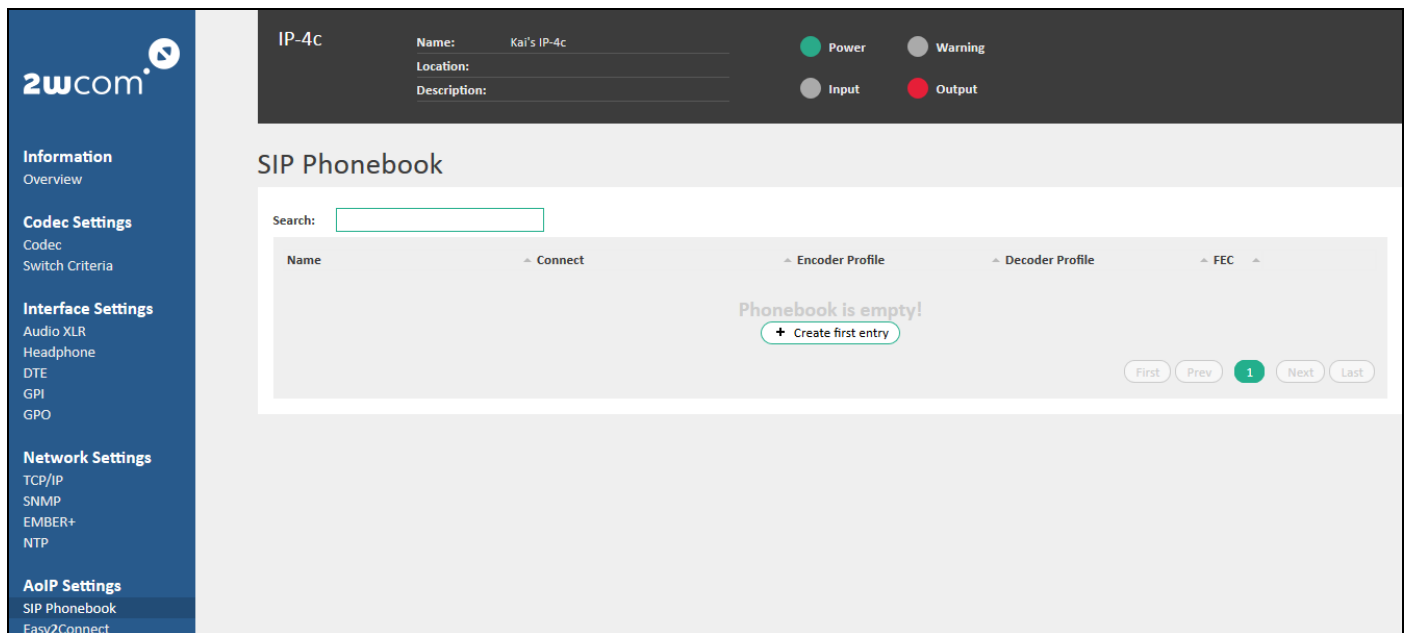

Figure 79: Preconfiguration of SIP contacts
1. Open the menu **AoIP Settings**→**SIP Phonebook** (see Figure 79).